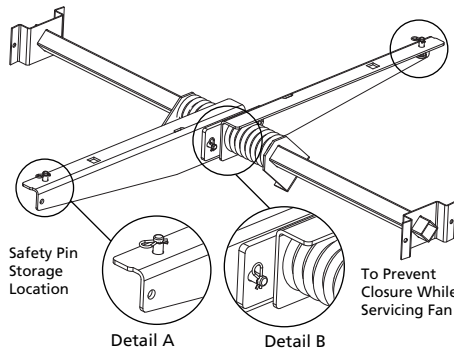

Figure 2 - Damper Lifter
**CAUTION** Extreme care must be taken when working around the damper lifter assemblies or serious bodily injury or death may result. These fans have extra heavy duty fusible link damper lifters under very high spring tension that must be pinned so they can not be accidentally tripped when servicing the fan. The fusible link damper lifters are located under the butterfly damper blades. Figure 2, Detail A shows where the two